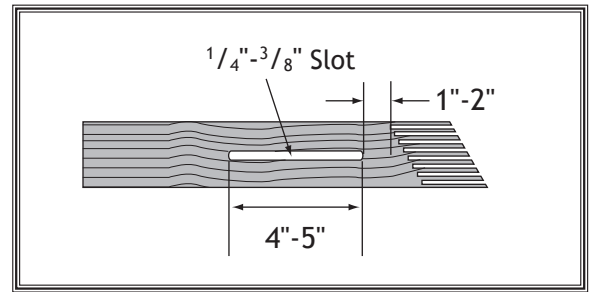

Figure 97. Slot cut into the featherboard for use with a miter slot.
4. Rout a $\frac{1}{4}$ "- $\frac{3}{8}$ " wide slot 4"-5" long in the workpiece and 1"-2" from the short end of the featherboard, as illustrated in **Figure 97**.